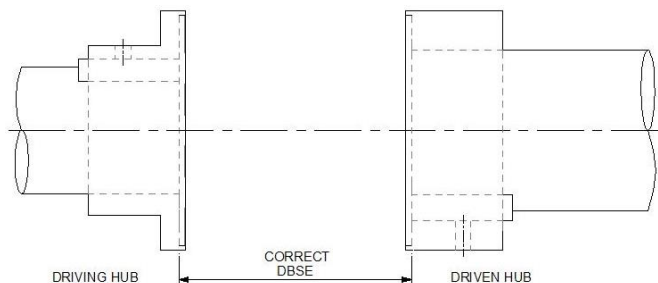

Fig. 4 HUB Mounting
3.2.1 Straight Bore with clearance fit (Fig.4).
- REM couplings are supplied with fully assembled transmission unit with tightened cleveloc nuts(7) at RTPL to specified tightening torque (Table 2).
- Ensure hubs have been mounted as shown in fig.4,to maintain correct DBSE .